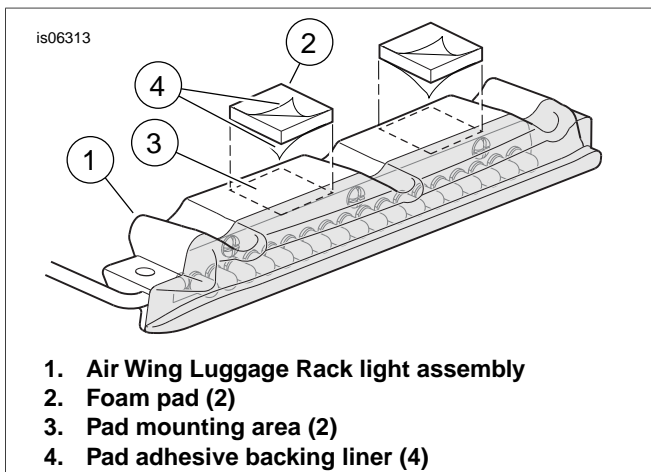

Figure 1. Attach Foam Pads to Light
See Figure 1. Ambient temperature should be at least 60 °F (16 °C) for proper adhesion of the foam adhesive pads (2) to the rack and light.
7. Clean the foam pad mounting areas (E) on the underside of the rack rear crossbar and (see Figure 1) on the light (3) with a mixture of 50-70% isopropyl alcohol and 30-50% distilled water. Allow to dry thoroughly.
8. See Figure 1. Remove the liner (4) from the adhesive backing on **one side** of a pad (2). Carefully position the pad to the top surface of the light (1), between the clearance notches, and press firmly into place. Repeat with the second pad.
9. Remove the remaining liner from both pads, and install the light to the rear cross bar with two socket head screws (3) and flat washers (4), drawing the wiring out the forward hole (C) as the light is set in place. Tighten the screws securely.